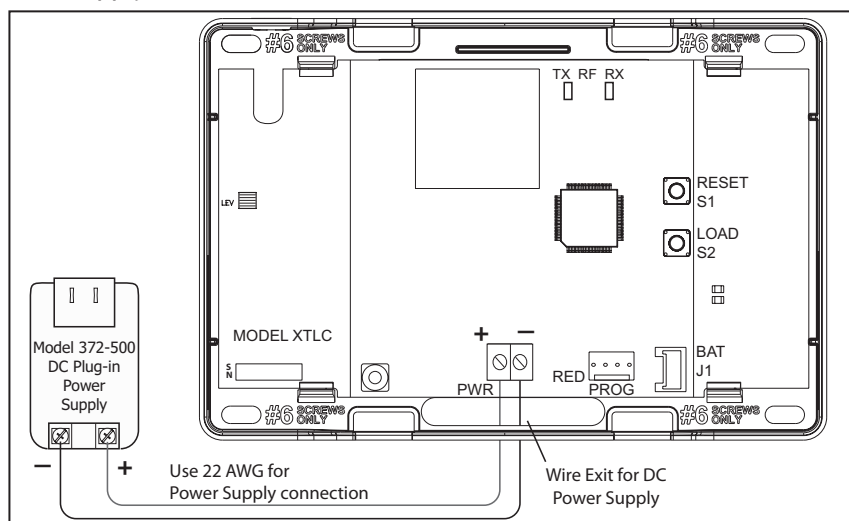

Figure 2: DC Power Supply Connection
6. Place the new battery into the housing base with the battery wires directed toward the bottom right corner. See Figure 2.